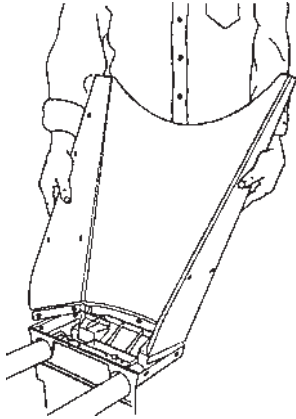

Figure B-24
8. Place the "lip" of the first leg (30) inside the MARK 4 [Shorty] base, as shown in Figure B-24.